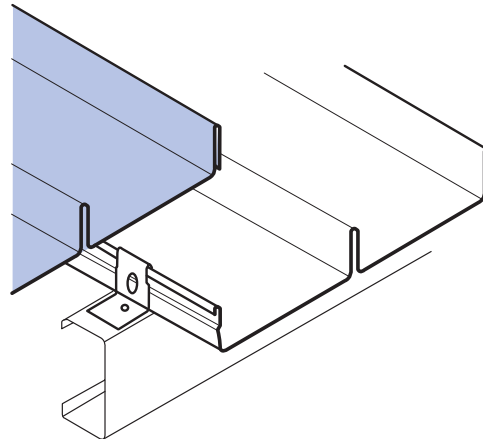

Figure 9.4.6
2. Place top fixing clips over each squashed male rib and fix to the purlins (Figure 9.4.5). With a felt-tipped pen, make a small mark in the pan to enable you to locate the clips in the later locking operation with the button punch (Figure 9.4.6).
All lapped ribs must be locked along their length, by button-punching at the clips, and if necessary between the clips (typically at 900mm centre to centre. Figure 9.4.6). Punching to a string line guide stretched across the sheeting is recommended as random punching mars the appearance of the finished work.